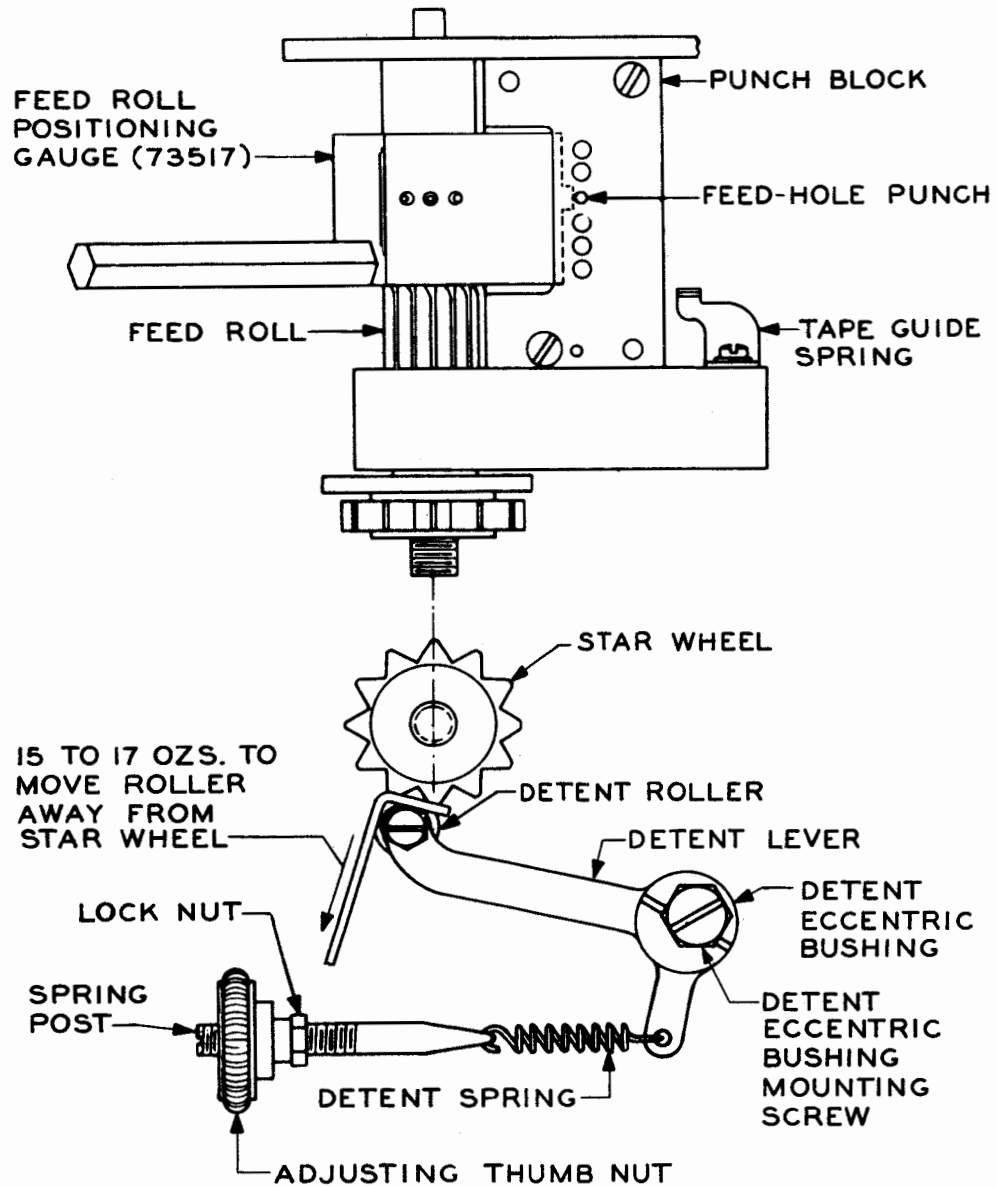

Figure 6
To Adjust: Loosen the detent-eccentric-bushing mounting screw and position the bushing, keeping the center of the eccentric bushing below the center of the mounting screw. See Figure 6.
(1) For units equipped with the TP99037 Set of Parts, it should require a pull as called for in the figure to start the roller moving away from the star wheel. See Figure 6.
To Adjust: Position the spring. See Figure 6.
To Adjust: Bend the spring. See Figure 6.